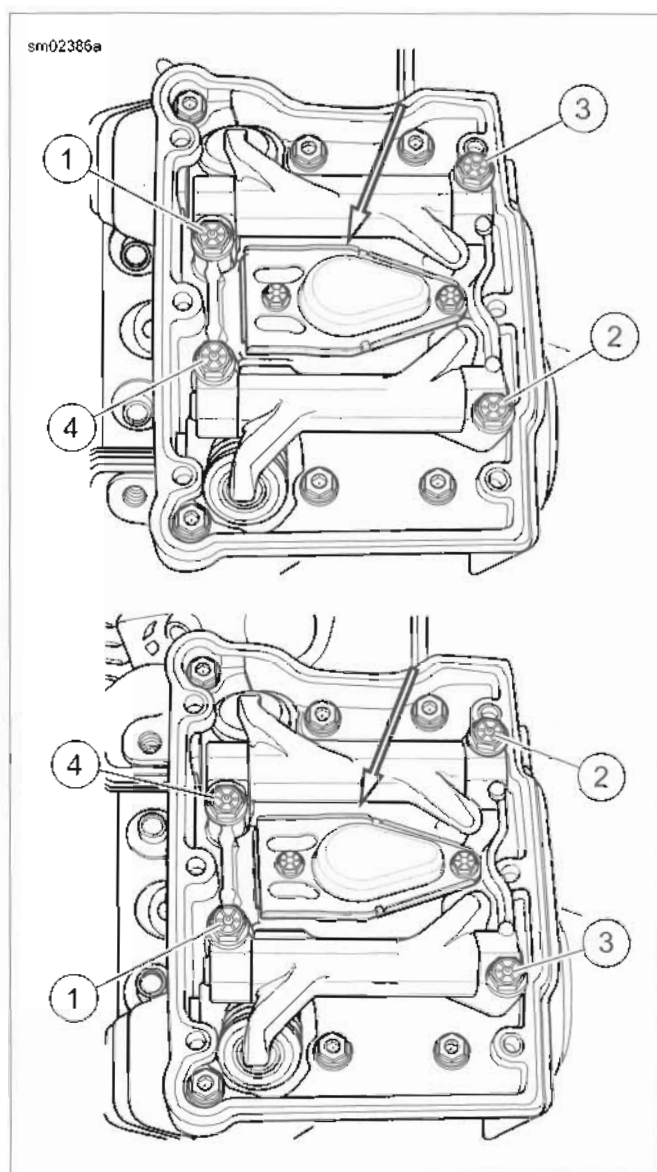

Figure 3-85. Rocker Arm Support Screw Sequence
2. See Figure 3-85. Place the rocker arm support plate assembly into the rocker housing and loosely install four rocker arm support plate bolts with flat washers.